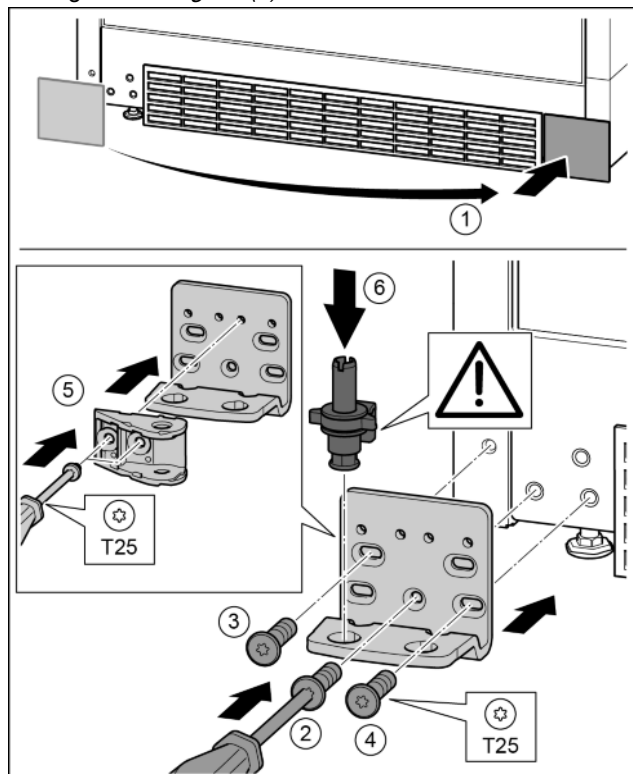

Fig. 31
- Remove the cover and fix it on the other side. *Fig. 31 (1)*
- Place the bearing bracket on the other side and screw in with the aid of a T25 screwdriver. Start with screw 2 at the bottom in the middle. *Fig. 31 (2)*
- Screw in screws 3 and 4. *Fig. 31 (3, 4)*
- Rotate the soft stop connection 180°. Screw in with a T25 screwdriver on the other side of the bearing bracket. *Fig. 31 (5)*
- Insert the bearing pin completely. Make sure that the catch mechanism is pointing to the rear. *Fig. 31 (6)*